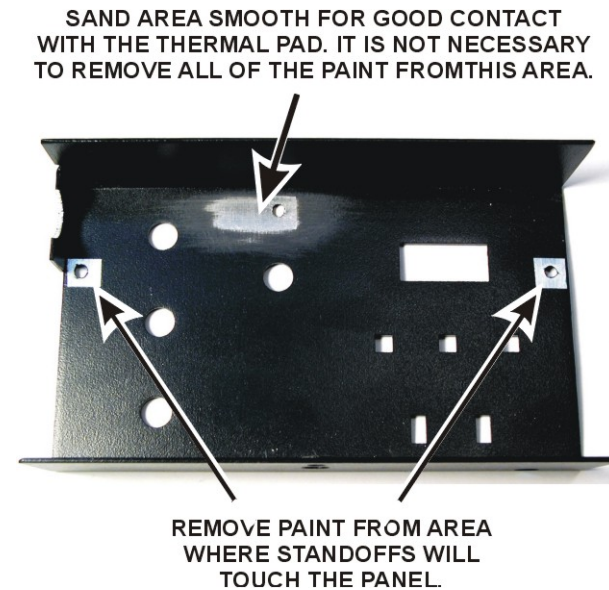

Figure 21. Preparing Top Cover for Installation.
- Remove the paint from around the screw holes where the short standoffs will contact the front panel as shown in Figure 21. Use sandpaper or a sharp knife. Clean the panel thoroughly to remove all of the residue when you are done.